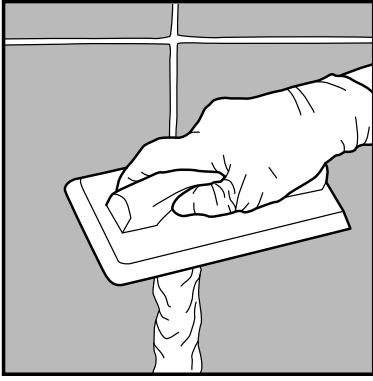

FIGURE 18 Remove excess grout
- Remove excess grout from the surface of the tile by holding the float at a 45° angle to the floor surface and moving diagonally across the joints. (Fig. 18).